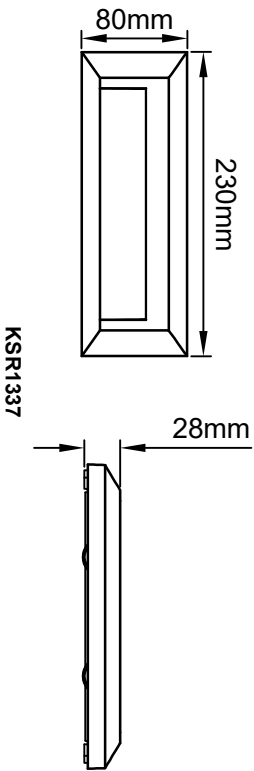

Fig. 1
- Unclip the front cover from the fitting to expose the clear diffuser Fig. 1.